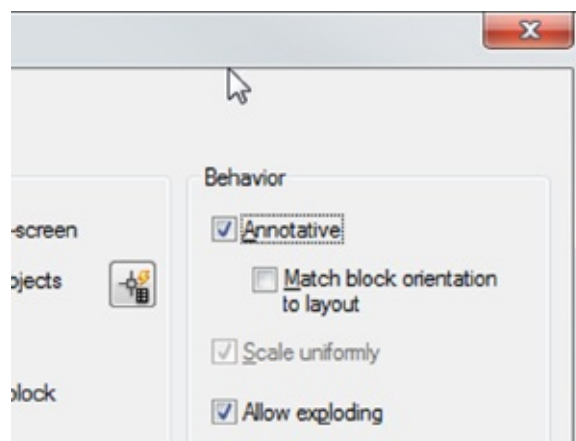

FIGURE 4.12 Select the Annotative option in the Block Definition dialog box.
3. Turn on the Annotative option in the Behavior section of the Block Definition dialog box. You can also turn on the Match Block Orientation To Layout option if you want the symbol always to appear in a vertical orientation (see Figure 4.12).